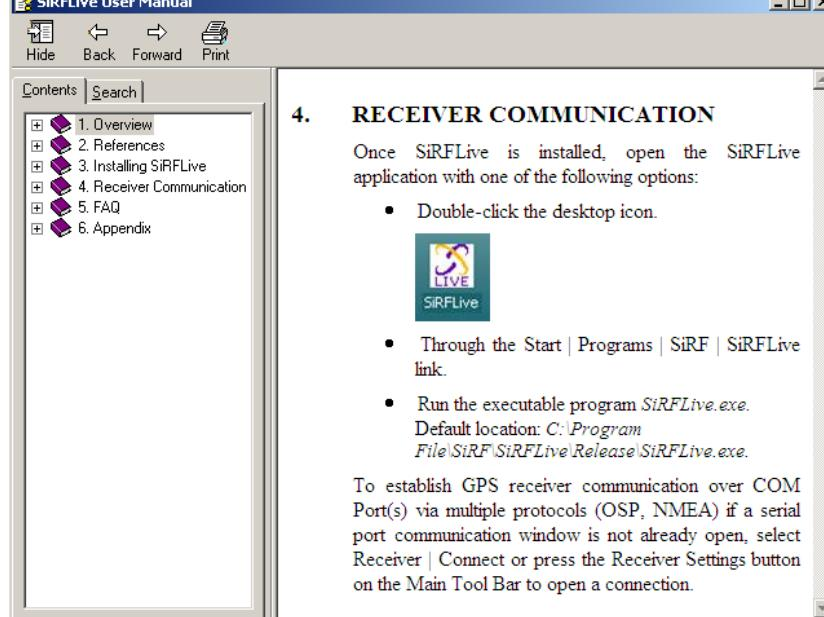

Figure 12.2: User Manual Help File
- Select **Help / User Manual** to display the User Manual help file, see Figure 12.2.